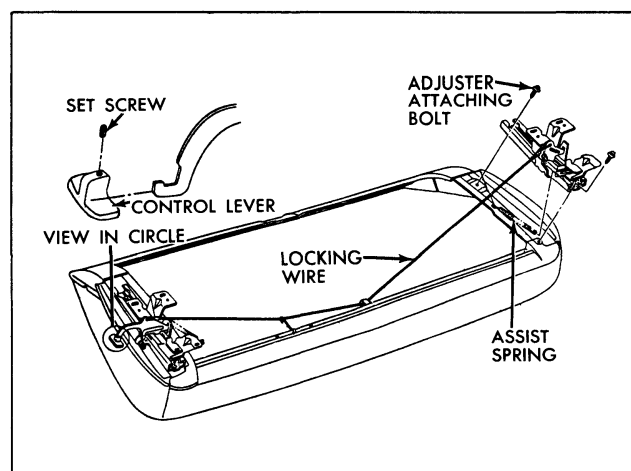

Fig. 8-1 Manual Seat Adjuster
2. Remove adjuster assist spring from adjuster to be removed (Fig. 8-1).
3. When removing left adjuster, it is necessary to remove the seat adjuster control knob (Fig. 8-1).
5. Remove adjuster-to-seat bottom frame front and rear attaching bolts and remove adjuster from seat (Fig. 8-1).